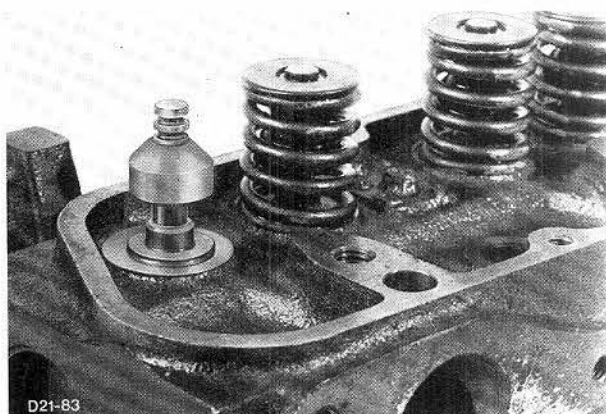

Fig. 78. Valve stem seal on valve stem.
5. Lubricate valves and valve guides. Insert valves. Slide valve stem seals on to valve stems, Fig. 78.